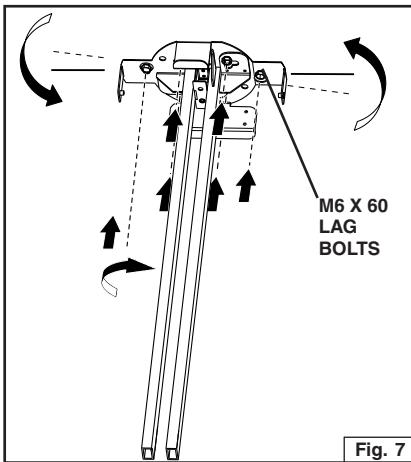

Fig. 7
3. Mount the telescopic arm. Attach with the installed (2) M6 x 60 lag bolts - mount the two key hole slots and rotate arm. Make sure the arms are perpendicular to the ceiling. Tighten (2) lag bolts. Fig. 7.
4. Attach the remaining four (4) M6 x 60 lag bolts per arm. Fig. 7.